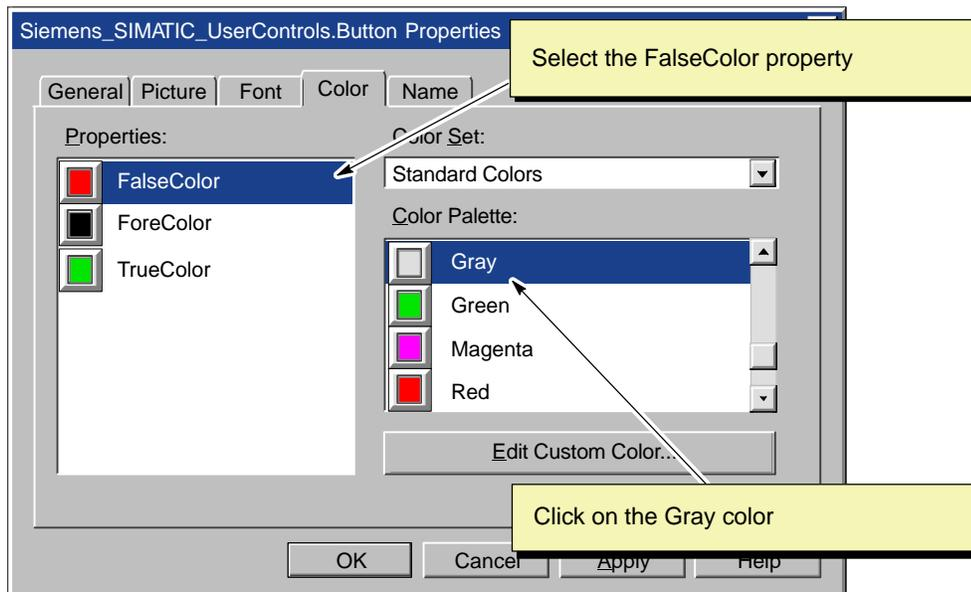

Figure 3-19 Configuring the False Color for Button1 (Button control 1)
- Select (click on) FalseColor in the Properties box and click on the color Gray in the "Color Palette" box. See Figure 3-19.